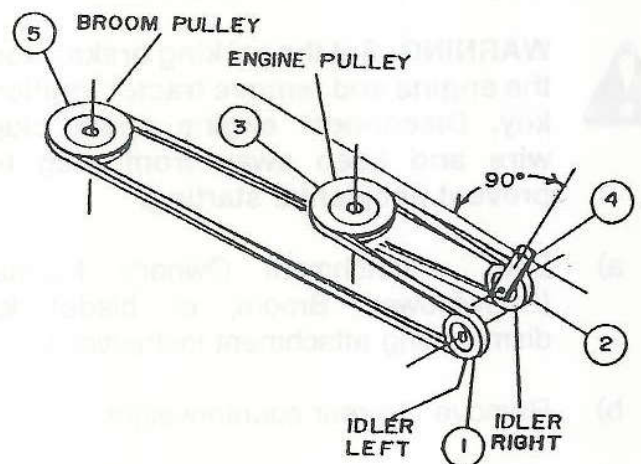

FIGURE 14
- c) Route the broom drive belt around the "V" idler pulley (fig. 14, item 1) around "V" idler pulley (item 2) and around the tractor drive pulley (item 3).